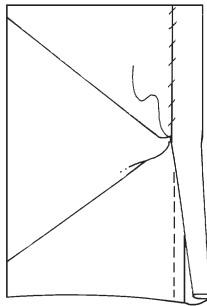

Fig. 11-5
9. Pin this folded and pressed edge of the lap over the seam on the inside of the sleeve and slipstitch in place. (Fig. 11-5)